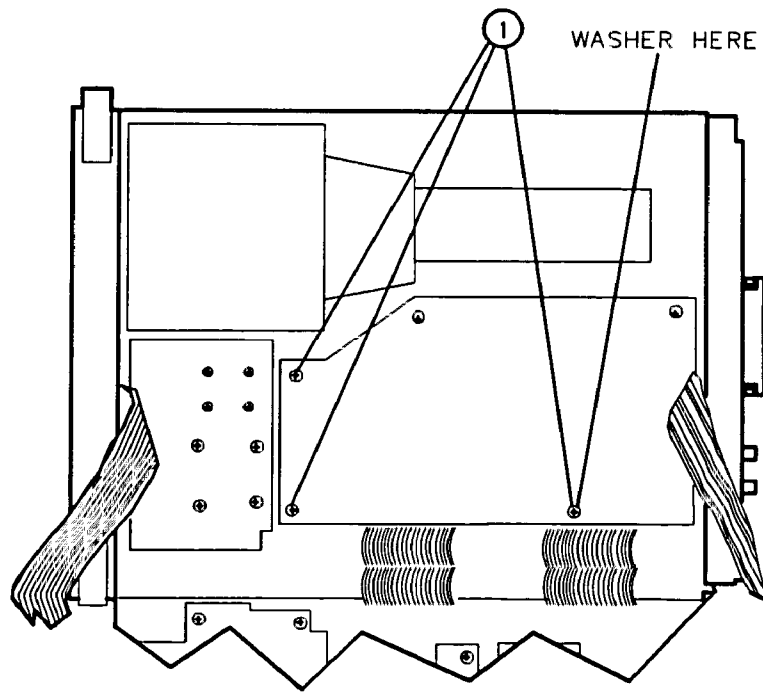

Figure 3-13. A6 Power Supply Cover
7. Secure the power supply cover shield to the power supply using three flathead screws (1). See Figure 3-13. On some instruments a flat washer is used with one of the screws. If one of the screws removed had a flat washer with it, then replace it as shown in Figure 3-13. One end of the cover fits into a slot provided in the rear frame assembly.
5. Secure the power-supply cover shield to the power supply using three flathead screws (1). See Figure 3-13. On some instruments, a flat washer is used with one of the screws. If one of the screws removed had a flat washer with it, then replace it as shown in Figure 3-13. One end of the cover fits into a slot provided in the rear frame assembly.